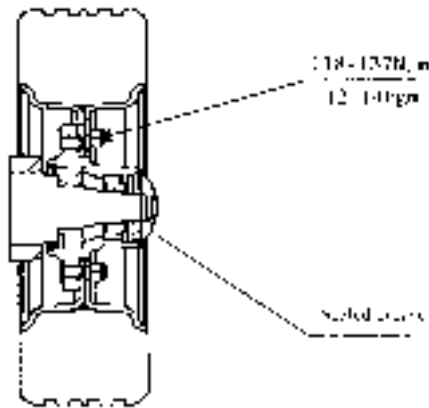

Fig.3-5 Pre-load adjustment
a) As shown in Fig3-5, fill up the chamber formed by wheel hubs, wheel hub bearings and wheel hub covers with lubrication grease. Coat the lips of the oil seals with lubrication grease.